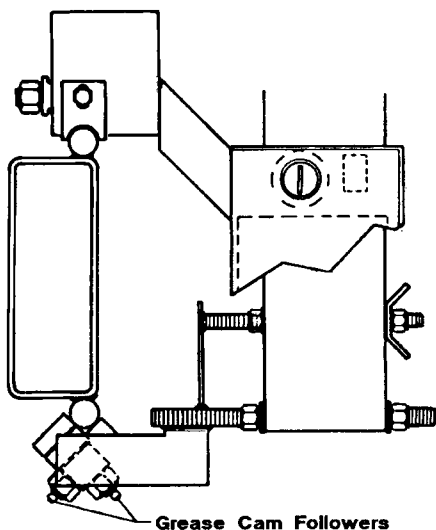

FIG 4-2
1. Grease (2) track cam followers (See Figure 4-2). Certain woods have high levels of acid in the sawdust that will react with steel, causing excessive wear. The grease is primarily for purging any sawdust out of the critical areas.